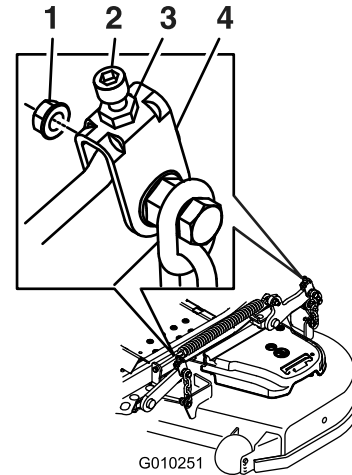

Figure 94
10. If needed, loosen the whizlock nut on the side of the yoke and the jam nut on top. Fine tune the screw adjuster by turning it to get a 7.6 mm (3 inches) height (Figure 94).
16. Fine-tune the screw adjuster by turning it to get 8.3 mm (3-1/4 inches) height (Figure 94).